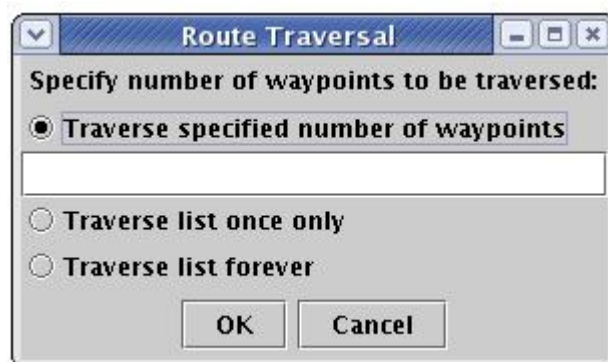

Figure 8-12. Route Traversal Dialog.
4. Select Routes/Execute Route, from the Glmpc Terminal's menu bar. A 'Route traversal' dialog will then appear (shown in Figure 8-12), requesting the number of waypoints to be traversed.